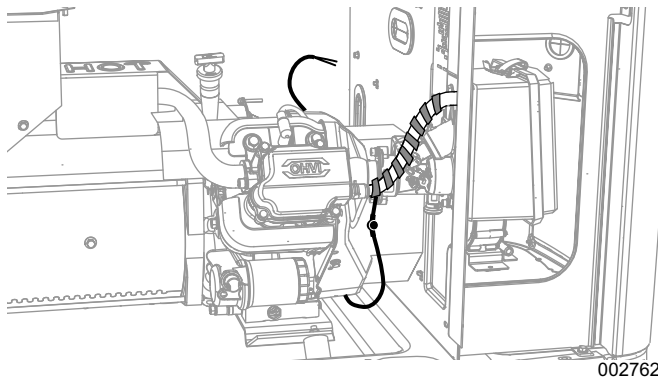

Figure 4. Routing Heater Wires (9 kW)
2. See Figure 4. Route the lead wires beneath and behind the engine as shown.